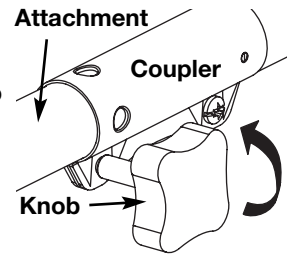

Fig. 20
2. Turn the knob counterclockwise to loosen the coupler (Fig. 20).